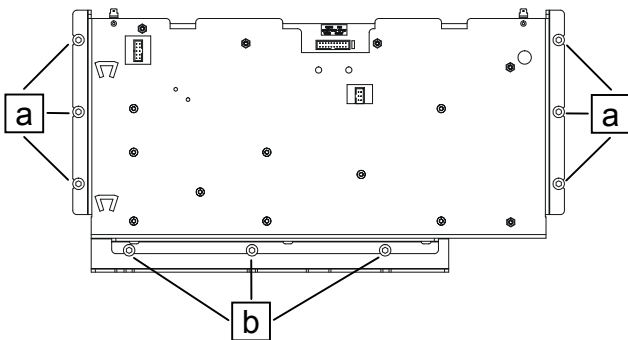
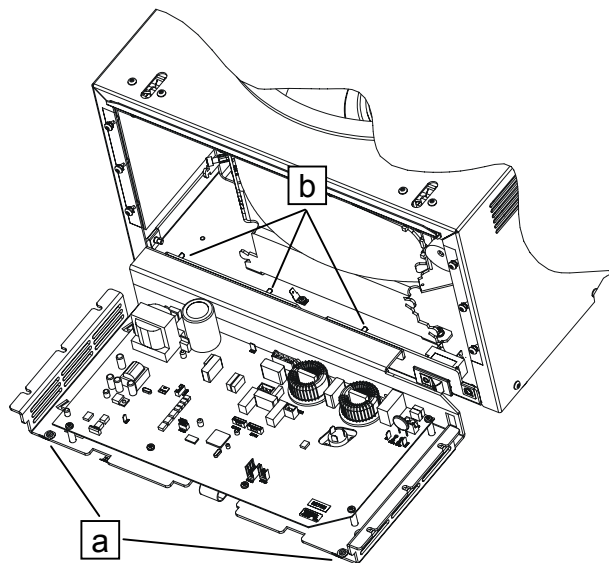
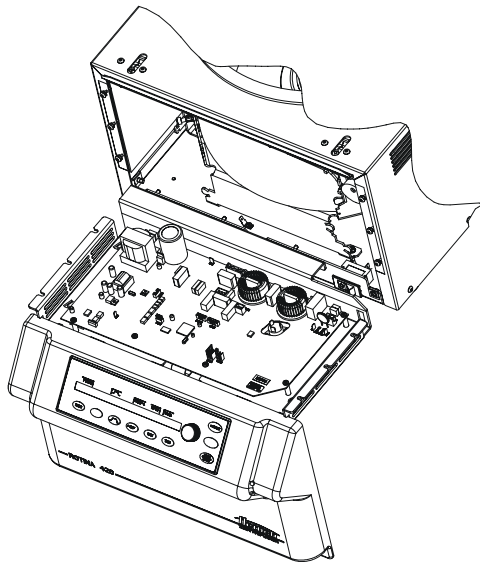

Fig. 9
Fig. 10
Fig. 11
- Unscrew each 3 screws (Fig. 9, a) on the left and on the right at the support sheet.
- Loosen the screws (Fig. 9, b) on the lower part of the support sheet by approx. 5 mm.
- Lift the support sheet and hook it in horizontally on the screws (Fig. 9, b ; Fig. 10, b), see Fig. 10.
- Hook in the front panel with the slot on the two supporting devices (pg. 80, Fig. 10, a) at the support sheet for electronics (A1), see Fig. 11.